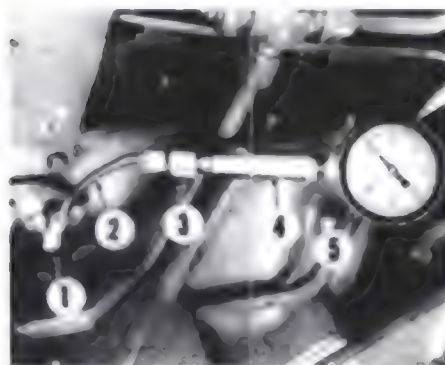

Fig. 103 - Test gage installed for checking servo pressure.
**91. SERVO PRESSURE.** To check the servo pressure, install a 600 psi test gage in the test port above the brake pedals as shown in Fig. 103. Operate